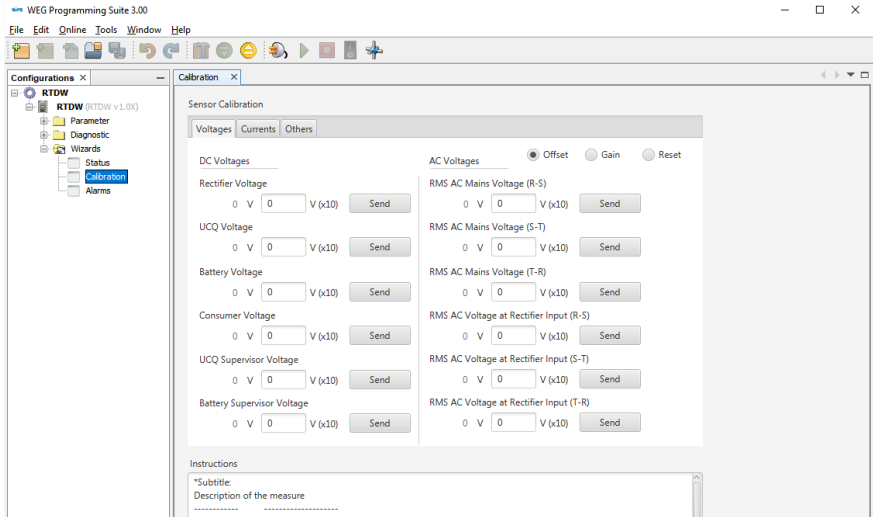

Figure 6.38: Calibration wizard
- With a double click, open the Calibration wizard, Figure 6.38 on page 6-45. Through this wizard, it is possible to calibrate the current and voltage gain and offset available in the RTDW, in addition to returning to the original values (Reset).